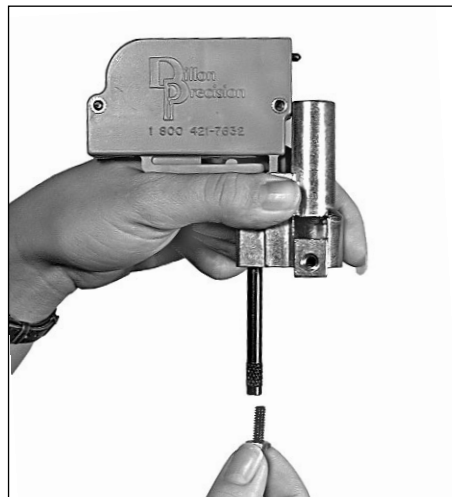
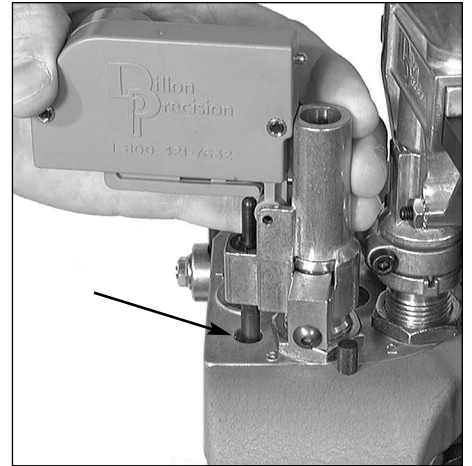

FIG 56
FIG 57
4. Remove the 10-24 screw and nut from the black push rod **FIG 56** and place the powder check system on the powder check die **FIG 57**. Center the black push rod (see arrow **FIG 57**) in the hole that is to the left of the die.